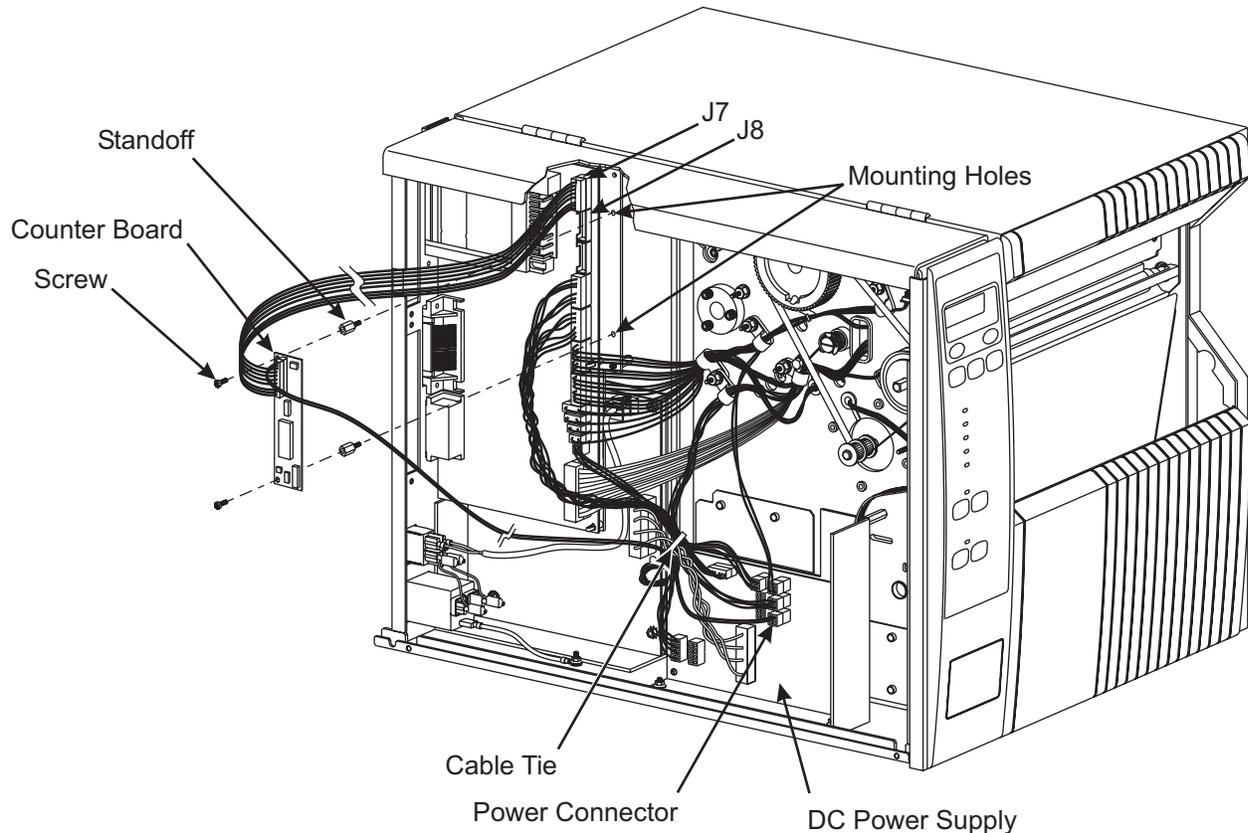

Figure 6-8. Installing the Counter Board (Xiii and R-140 only)
6. Attach the data cable as seen in Figure 6-8 to the counter board.
8. Route the power connector and wires through the cable tie shown in Figure 6-8. Connect the open end of the power connector to either of open plugs J5 through J10 on the DC power supply.
11. Restore power and turn the printer On (I).